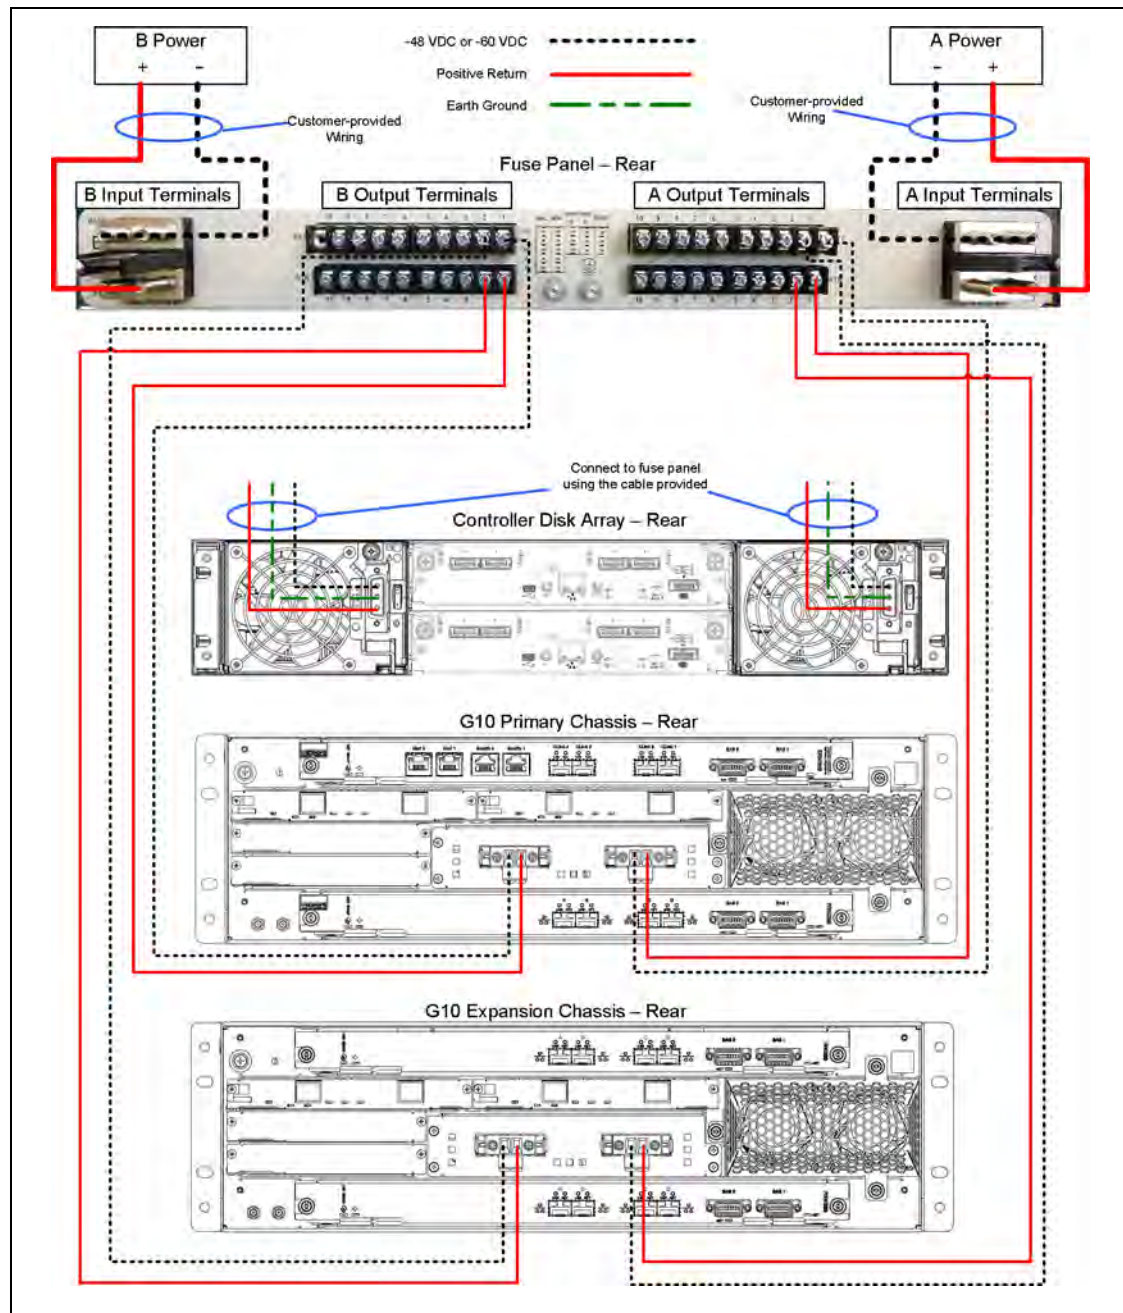
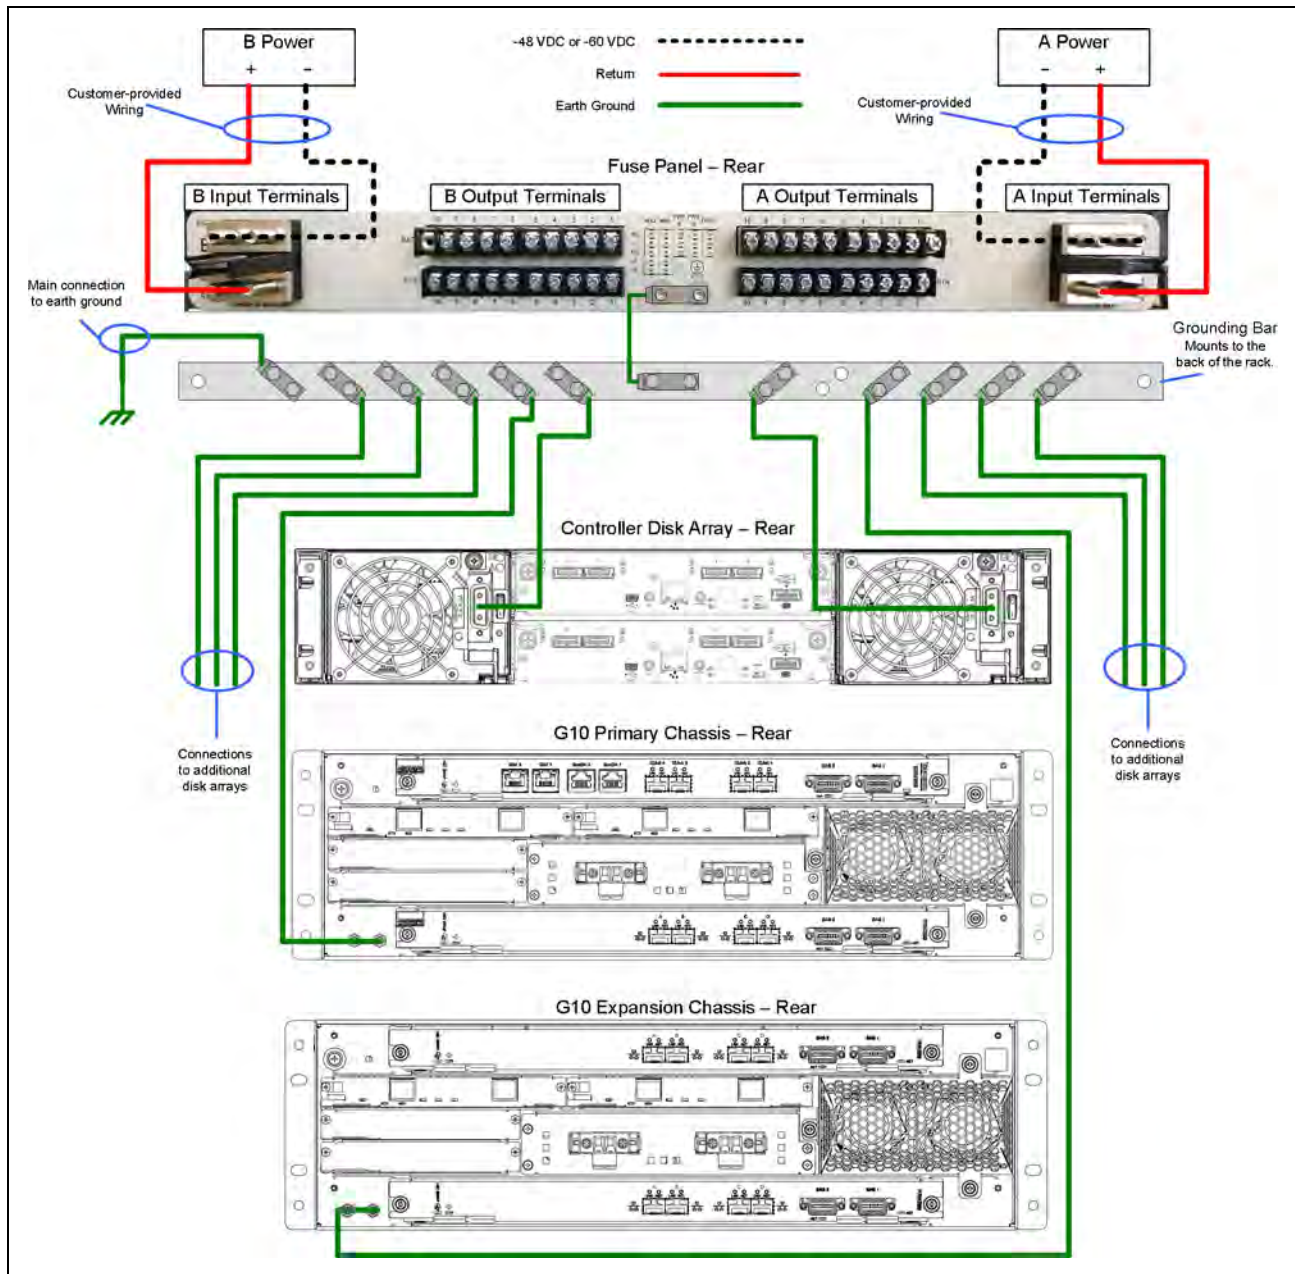

Figure 2.28 - Component Power Cabling
Figure 2.29 - Example Grounding Solution
1.	<p>Refer to Figure 2.28 and Figure 2.29 and the following bullets and connect each power feed for each G10 and storage enclosure to the fuse panel. Refer to the Table 2.2 and Table 2.3 for additional wiring and lug recommendations.</p> <ul style="list-style-type: none"> ■ Connect G10 DC Power A to Fuse Panel A Output Terminals and Ground ■ Connect G10 DC Power B to Fuse Panel B Output Terminals and Ground ■ Connect Storage Enclosure DC Power A to Fuse Panel A Output Terminals and Ground ■ Connect Storage Enclosure DC Power B to Fuse Panel B Output Terminals and Ground
Figure 2.29 shows an example grounding solution using a grounding bar. Note that Figure 2.29 only shows grounding cabling from the components to the grounding bar; refer to Figure 2.28 for power cabling from the components to the fuse panel.